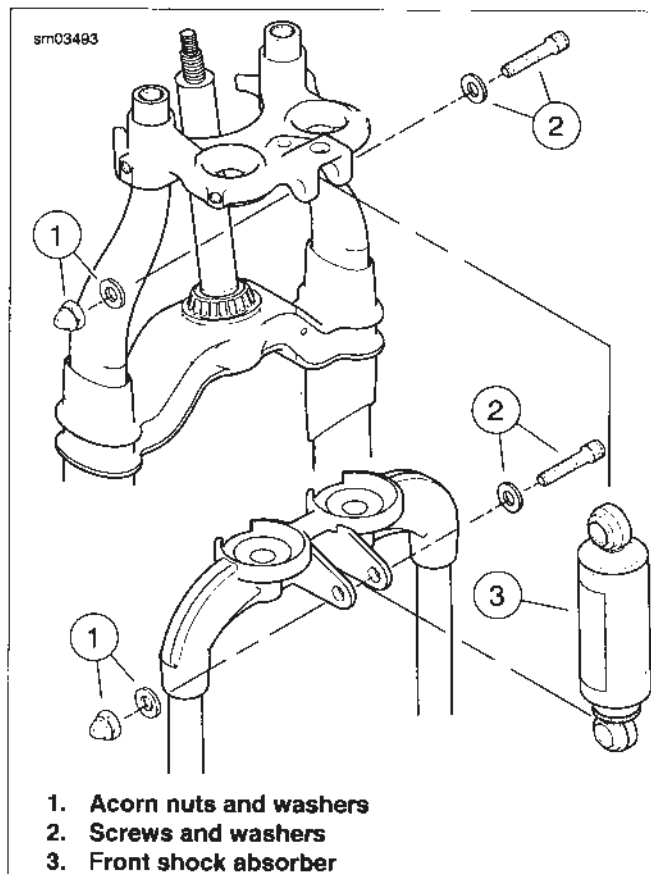

Figure 2-67. Shock Absorber
1. See Figure 2-67. Remove acorn nuts and washers (1).
2. Remove both screws and washers (2). Remove front shock absorber (3).
1. See Figure 2-67. Apply LOCTITE THREADLOCKER 243 (blue) to screws (2).
2. Place shock absorber (3) in position in bracket holes and install screws, washers, and acorn nuts. Tighten acorn nuts to 45-50 ft-lbs (61.0-67.8 Nm).